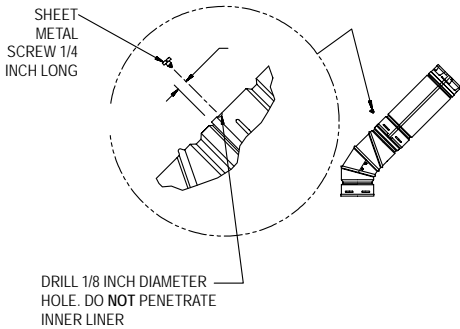

Figure 19
2. Connections. In addition to twist locking the elbows, the connection may be further secured by using sheet metal screws at the joint where the male and female parts overlap, provided that the screws do not penetrate the inner liner as shown in *Figure 19*. One screw per joint is normally sufficient. Use #8 Pan Head sheet metal screws which are no longer than 1/4 inch. Liberal use of Wall Straps for additional support is recommended. Do not allow the weight of the offsetting pipe to bear down on lower elbow.